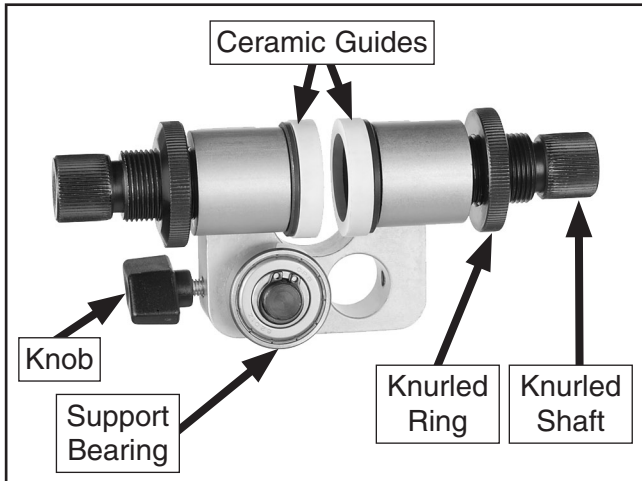
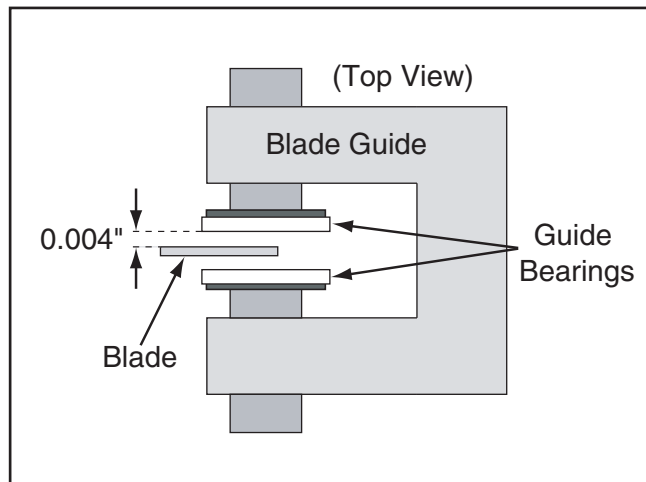

Figure 4. Ceramic guides adjusted outward.
Figure 9. Correct gap between guide bearings and blade.
- Use the knurled adjustment shafts to move the ceramic blade guides on the Model H7874 upper blade guide assembly away from each other (see **Figure 4**). This will allow enough room to fit the blade guides around the blade later.
11. Loosen the knurled rings on the ceramic blade guides (**Figure 4**), then rotate each blade guide shaft so the bearings are 0.004" away from the blade (see **Figure 9**).
12. Tighten the knurled rings (**Figure 4**) to lock the ceramic blade guides in position.
15. Loosen the knobs securing the ceramic blade guides, then adjust each bearing 0.004" away from the blade, as illustrated in **Figure 9** on **Page 3**, then tighten the knobs.
5. Loosen the knob on the support bearing adjustment shaft (see **Figure 4** on **Page 2**)—if it is not already loose.